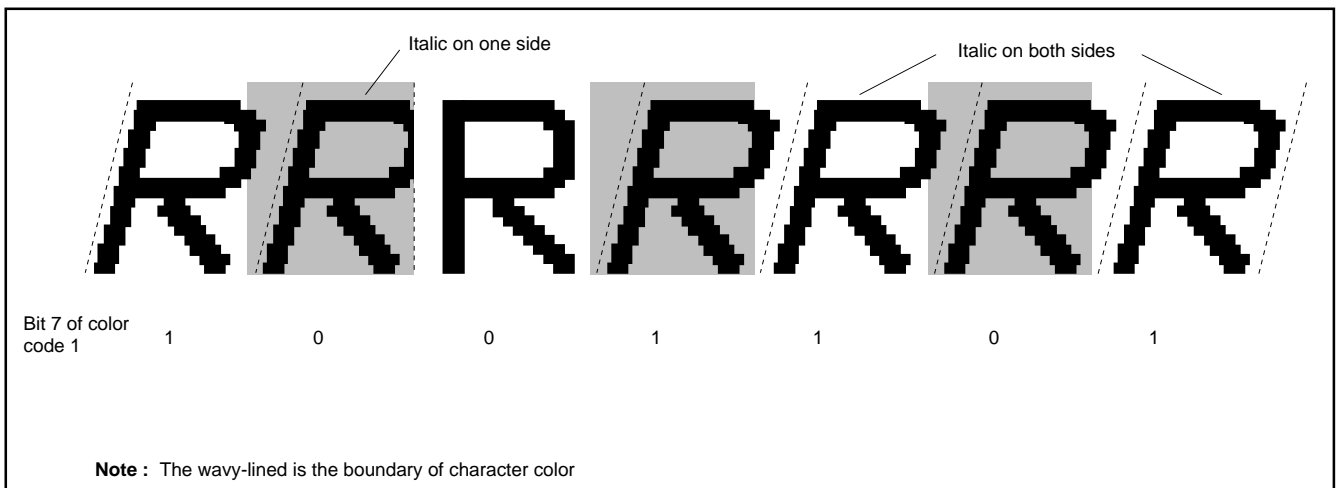

Fig. 85. Example of Italic Display
The display example of the italic and underline is shown in Figure 85. In this case, "R" is displayed.
- 3:** The boundary of character color is displayed in italic. However, the boundary of character background color is not affected by the italic (refer to Figure 85).
- 4:** The adjacent character (one side or both side) to an italic character is displayed in italic even when the character is not specified to display in italic (refer to Figure 85).